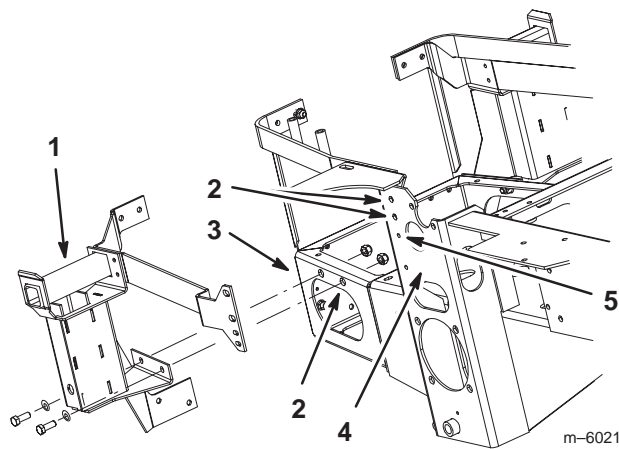

Figure 10
9. Using the bagger mounting bracket as a template, mark the 4 hole locations in the center of the slots (Fig. 10).
10. Remove the bagger mounting bracket (Fig. 10).
11. Drill 4 pilot holes, 1/8 in. diameter, at the marked locations. (Fig. 10).
12. Drill 2 holes, **13/32 in.** diameter, into the side frame through the 1/8 in. pilot holes. (Fig. 10).
13. Drill 2 holes, **13/32 in.** diameter, into the side of the rear bumper through the 1/8 in. pilot holes. (Fig. 10).